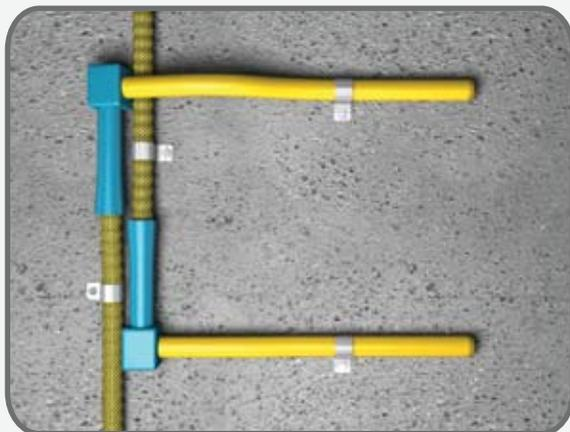

Figure 4
- The ends of consecutive injection hose runs must have an overlap of approximately 1 1/2" (see Figure 4).